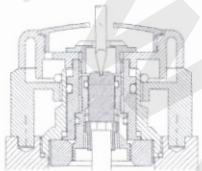

FIG 1
* To adjust the temperature supply ensure that the water is flowing and remove the knob insert (1) from the valve. Using a narrow bladed screwdriver, insert it through the retaining screw (2) until it is located in the slot of the adjusting screw (12). (fig 1).
* When the water is flowing at a desirable temperature simply replace the knob insert (1).
* For locked control, position knob (3) so that the stops found on the inside of the knob are each side of the lug in the sleeve (4). Screw in retaining screw (2), set temperature (as above) and replace the knob insert (1). (The valve is factory set in this position).
* For limited temperature adjustment position knob (3) with the stops to the left of the lug in the sleeve (4). Screw in retaining screw (2), set temperature (as above) and replace the knob insert (1).